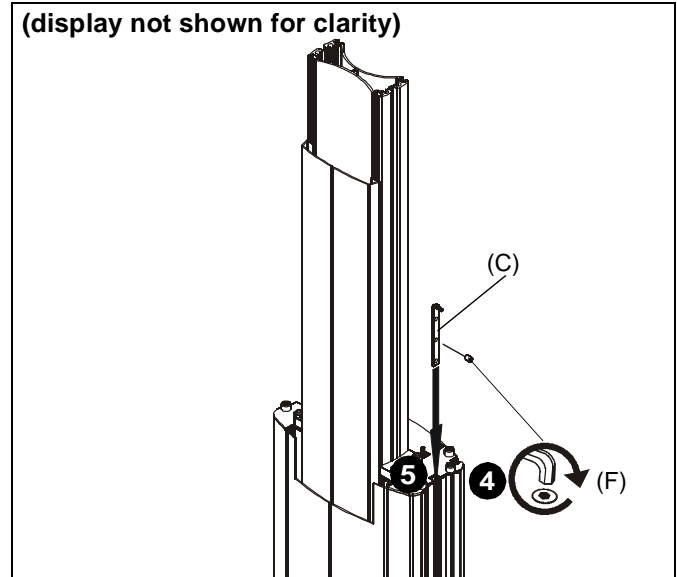

Figure 2
4. Partially install 1/4-20 x 3/8" set screw (H) into accessory bracket (B). (See Figure 2)
5. Slide accessory bracket (B) with set screw (H) into side channel. (See Figure 2)